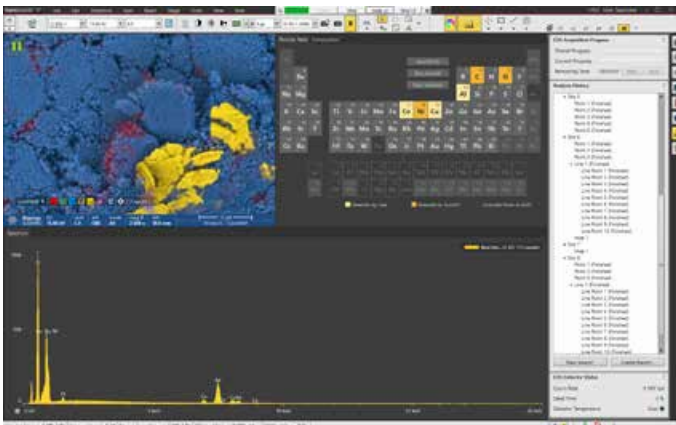

Figure 2: The dedicated workspace in ChemiSEM Technology is fully integrated in the xT user interface. Sample: Li-ion battery anode. (15 kV, 1.1 nA).
Each element is indicated by a different color, so you can clearly see the sample composition in the xT user interface (UI) (Figure 2) without switching to another software program. Each element can be turned on or off in order to focus only on the relevant information.